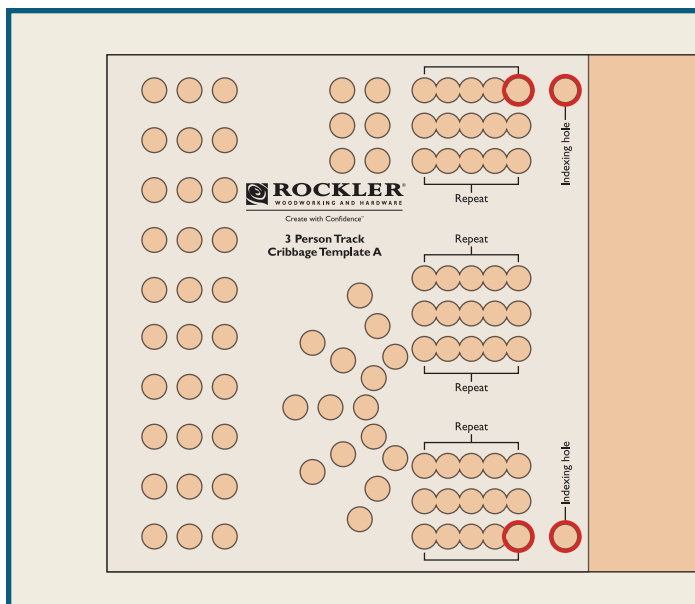

Fig. 1
2. Chuck the included Self-Centering Bit in a handheld drill and drill the four holes outlined in red in **Fig. 1**.